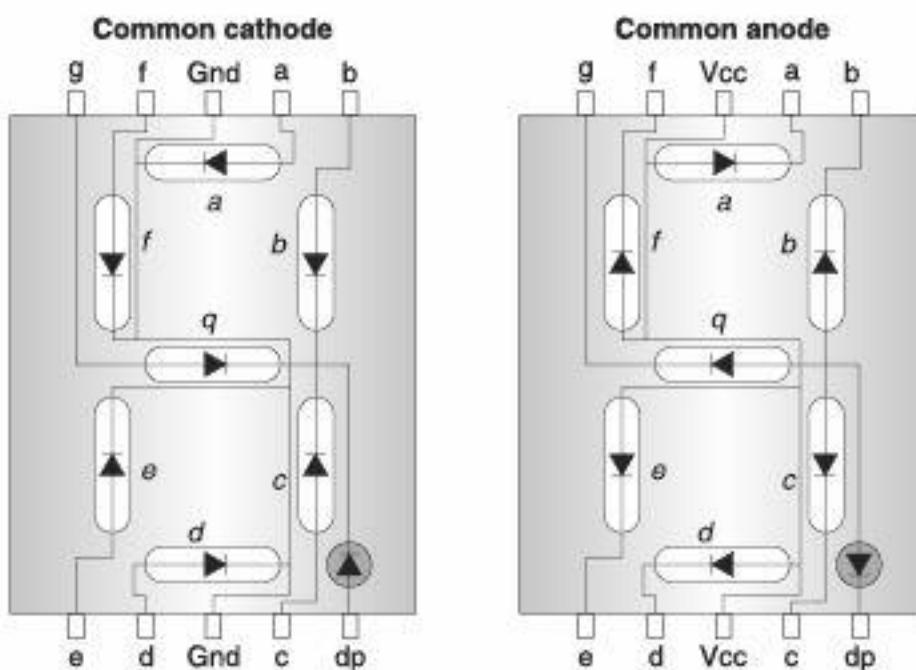
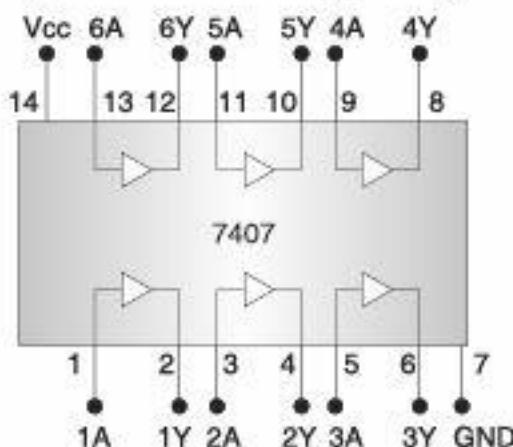

Fig. 6.5 Pin Configuration of FND 503/FND 507/510.
Fig. 6.7 The Pin Diagram of 7407.
**FND 500 and FND 503:** FND 500 and FND 503 are common-cathode 7-segment displays. Figure 6.5 shows the pin configuration of FND 503. FND 507/510, FND 507 and FND 510 are common-anode 7-segment displays.
**MAN 74 A:** MAN 74A is a common cathode 7-segment display. The pin configuration of MAN 74A is shown in Figure 6.5. The interfacing of decoder/driver 74LS48 and 7-segment display MAN 74A with microprocessor is shown in Figure 6.7. Table 6.1 is a functional table for 74LS48. The program to display the decimal number is as follows:
To display alphanumeric characters, the segments of a 7-segment LED are controlled independently. Buffers are used to interface 7-segment displays to the microprocessor. Hex buffer 7407 can be used for this purpose. The alphanumeric characters are also displayed by proper interfacing and programming. Figure 6.7 shows the pin diagram of 7407.